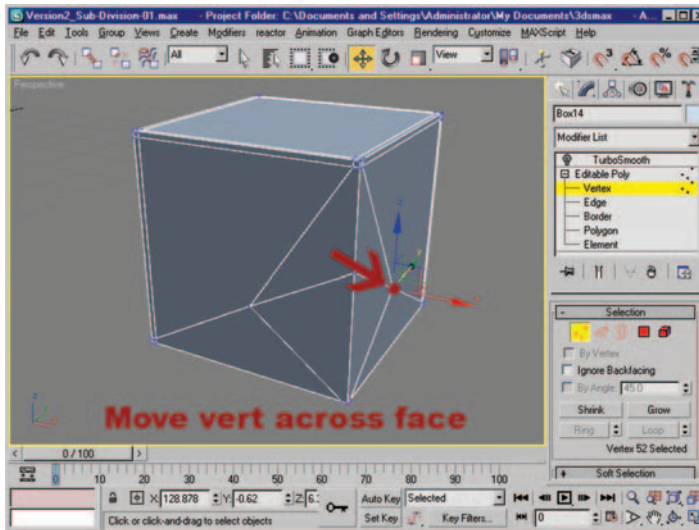

Figure 6.19 Vert moved along edge using Edge Constraints.
5. Repeat the last step, only this time on the other side of the cube (Figure 6.19).